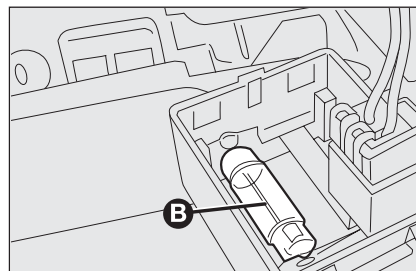

fig. 38
- ☐ replace the bulb **B-fig. 38** releasing it from the side contacts and making sure the new bulb is correctly fastened between the actual contacts;